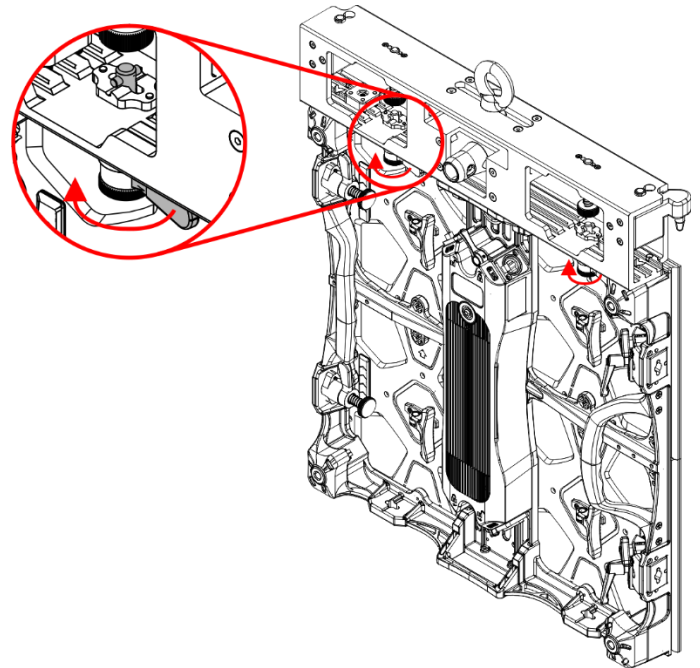

Fig. 23
- 05) Turn **lever (A)** of the left **locking mechanism (06)** clockwise to tighten the device to the rigging bar, as shown in Fig. 23 and 24.
- 06) Repeat steps 2–5 for the right **locking mechanism (06)**.